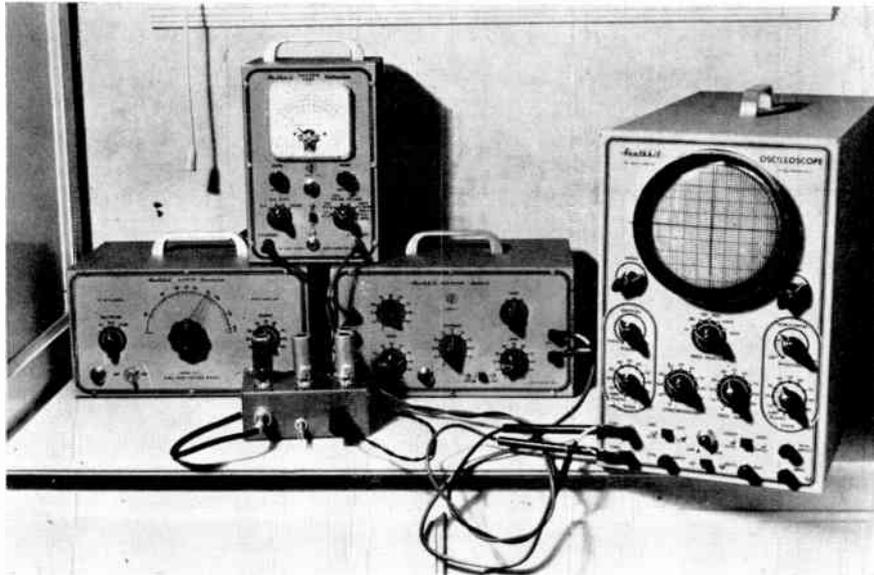

Fig. 1 Setup for audio amplifier checking. A sine-square wave audio generator, electronic switch, a-c vtm and oscillograph are shown
EFFICIENT audio amplifier testing calls for checking of (1) frequency response, (2) gain, (3) distortion, and (4) power output. No overhaul of p-a equipment may be considered complete unless these four performance characteristics have been examined by the technician. Instruments required for complete amplifier testing are (1) sine and square-wave audio oscillator tuneable from 20 cycles to 20,000 cycles, (2) a.c. vacuum tube voltmeter, (3) electronic switch, and (4) oscilloscope. They are shown in Fig. 1, set up for amplifier checking.